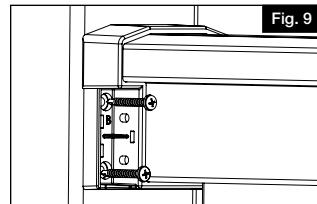

Fig. 9
- Tighten screws until the bracket is snug with the post. We recommend a non-impact drill with a clutch setting to avoid over tightening (Fig. 9).